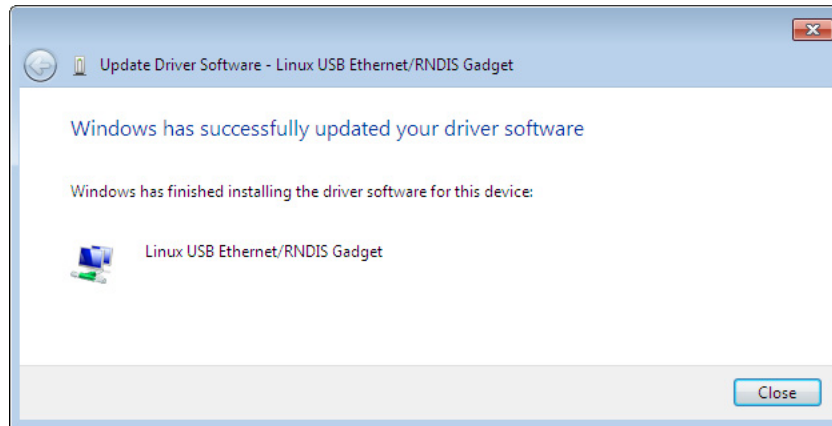

Figure 21. Update Driver Software Window – Update Successful
11. The message “Windows has successfully updated your driver software” displays (see Figure 21).